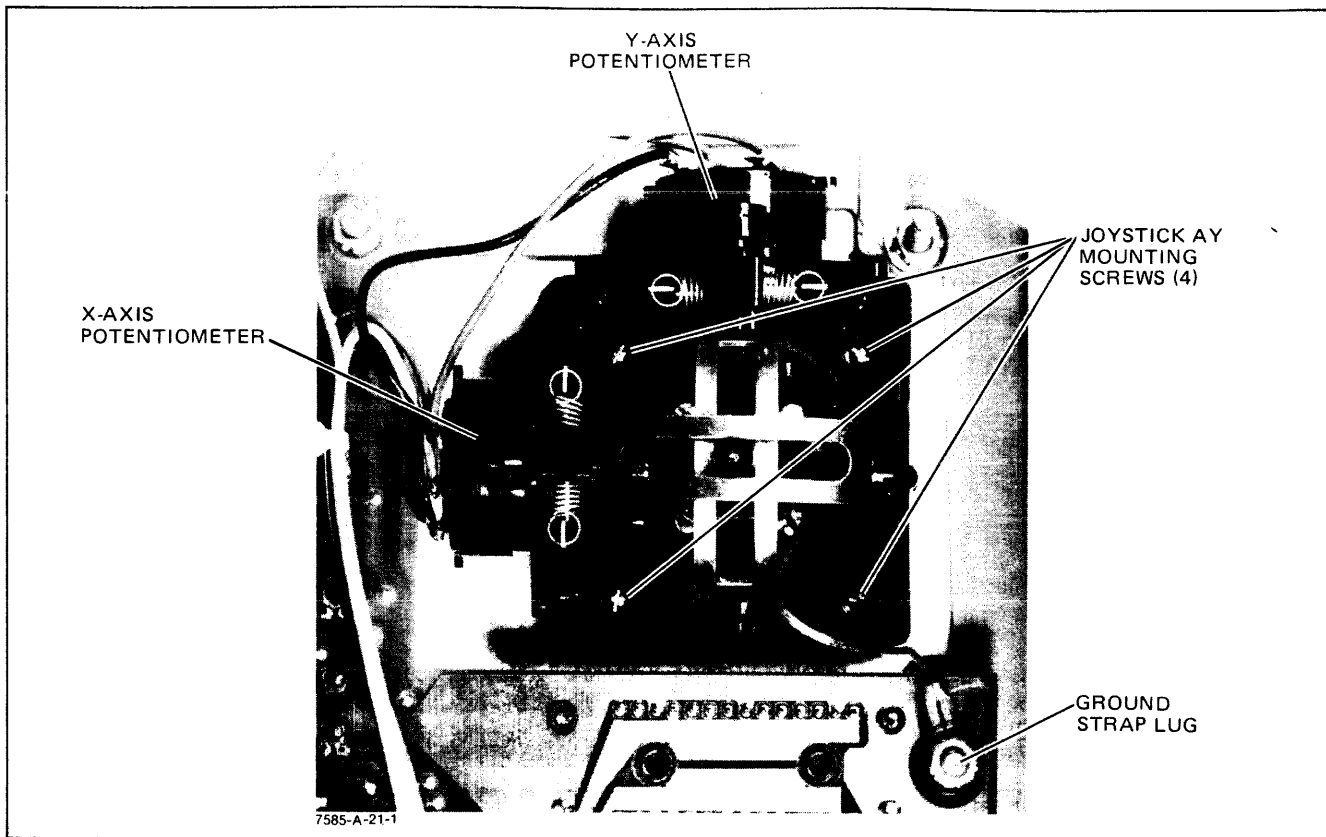

Figure 3-6. Joystick Null Adjustment
- d. Disconnect the joystick grounding strap and release the joystick assembly from the front panel. Do not disconnect the joystick wires from the Front Panel PCA. See Figure 3-6.
until the front panel A/N display is 80. Be sure the joystick itself is not moved from its null position while adjusting the potentiometer. See Figure 3-6.
- j. Repeat step h. except rotate the Y axis potentiometer instead of the X axis potentiometer. See Figure 3-6.